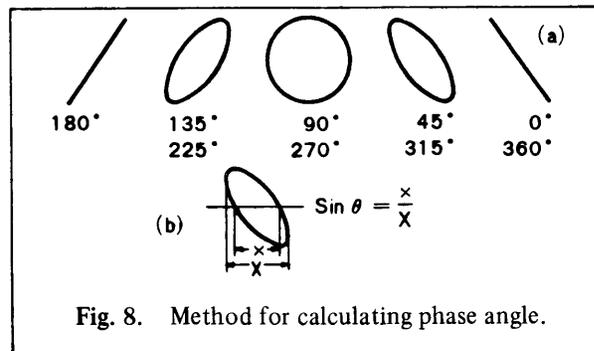

Fig. 8. Method for calculating phase angle.
- c. Changing the frequency of the 3050 under the above condition causes the straight line on the oscilloscope to expand gradually into an ellipse. By utilizing the configuration of this ellipse, the phase shift can be calculated as follows (see Fig. 8):
- d. First, measure the maximum horizontal deflection of the ellipse. Suppose that the deflection is X_{mm} as shown in Fig. 8. Here, let us suppose that the horizontal axis section, which is cut off by the ellipse, has a length of